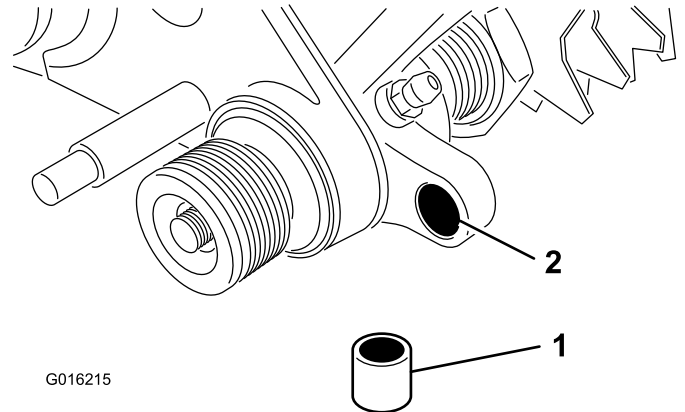

Figure 9
20. Insert a bushing into the hole in the right-hand groomer drive assembly (Figure 9).